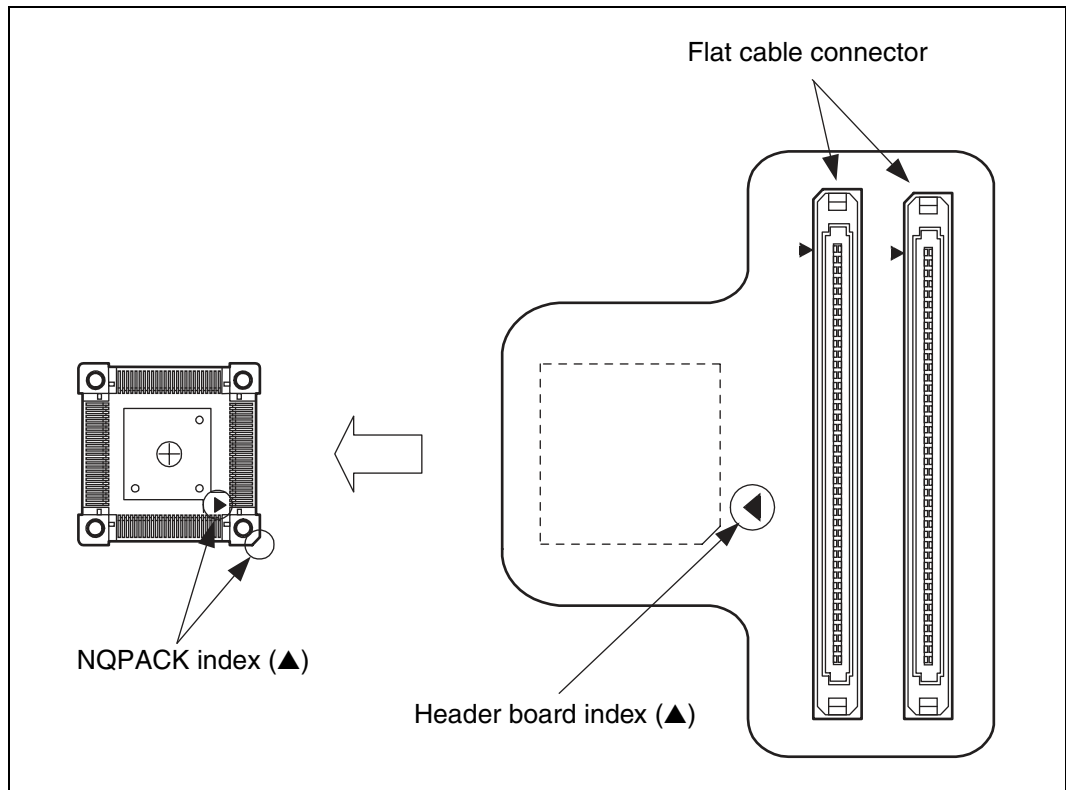

Figure 3 Index position
1. To connect the header board to the user system, match the index mark (▲) on the NQPACK mounted on the user system with the index mark (▲) on the header board and then insert it (see Figure 3). The pin of YQPACK is thin and easy to bent. Insert NQPACK after confirm that the pin of YQPACK is not bent.